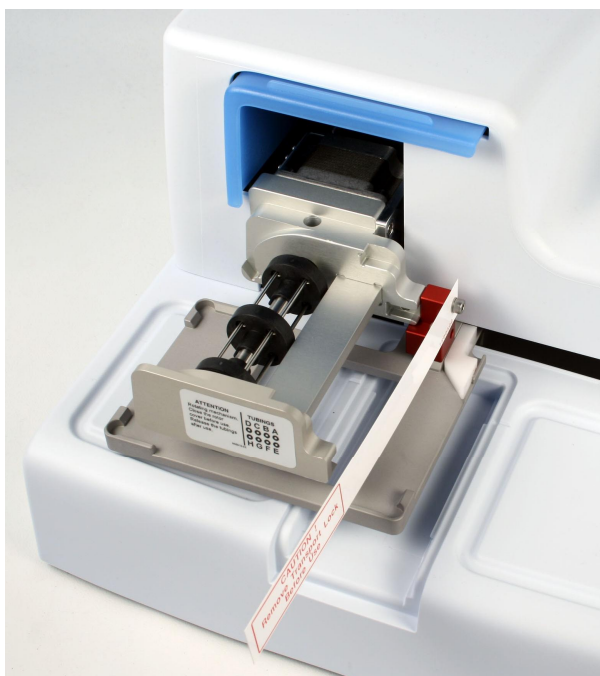

Figure 3–5. Transport lock and transport lock tag present
1. Unscrew the two screws marked 1 and 2 of the transport lock with the hexagonal screwdriver supplied (Figure 3–6) so that the track mechanism is loosened.